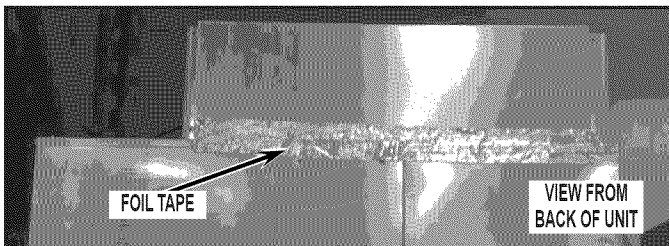

FIGURE 2
**NOTE:** Note the location of the foil tape on the back of the dog house (top unit cover) and remove or cut tape to remove dog house (top unit cover). See *Figure 2*.